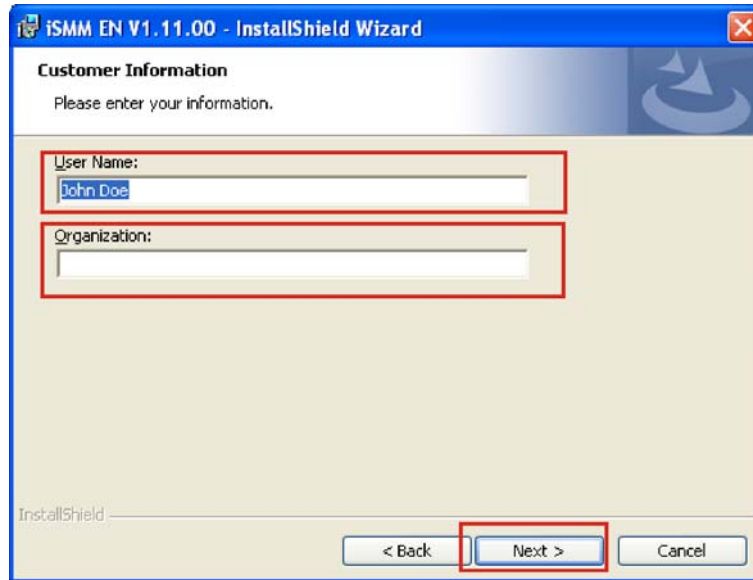

Figure 6-39: iSMM Customer Information
Step 12: The **Customer Information** screen appears.(Figure 6-39)
Step 13: Fill in the “User Name” and “Organization” fields, which will be automatically filled with the settings for the current user.(Figure 6-39)
Step 14: Click **Next** to continue.(Figure 6-39)